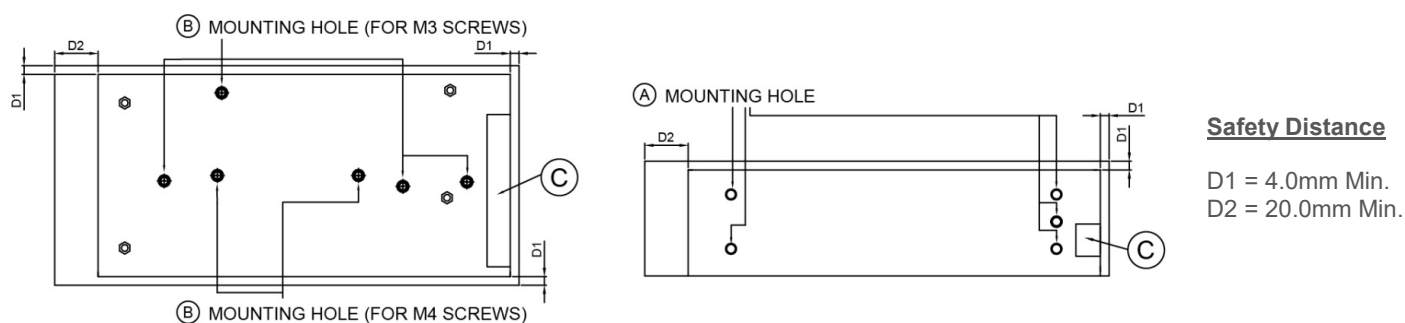

Fig. 3 Mounting Hole Locations and the Safety Distance
- (A) Side Mounting: Fig. 2 and Fig. 3 show the mounting hole locations for power supply assembly onto a metal mounting surface. The power supply shall be mounted on minimum of 4 mounting holes using M4 screw of maximum 4mm (0.16 inch) length (Refer to Fig. 4). This is to maintain a safety distance between the screw and internal components.
- (B) Base Mounting: Fig. 2 and Fig. 3 show the mounting hole locations for power supply assembly onto a metal mounting surface. The power supply shall be mounted on minimum of 4 mounting holes using M3 screw or 2 mounting holes using M4 screw of maximum 4mm (0.16 inch) length (Refer to Fig. 4). This is to maintain a safety distance between the screw and internal components.
- (C) Connector
- (D) This surface belongs to customer's end system or panel where the power supply is mounted.